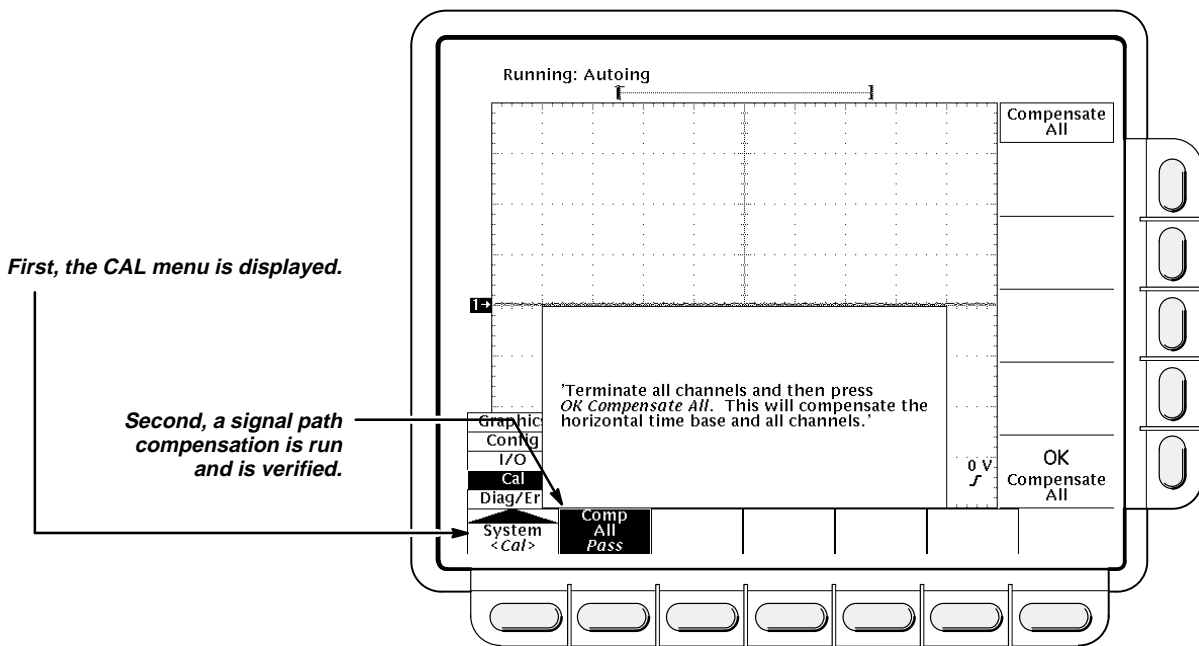

Figure 1-2: Verifying Adjustments and Signal-Path Compensation
- h. *Confirm signal-path compensation returns passed status*: Verify the word **Pass** appears under **Comp All** in the main menu. (See Figure 1-2.)